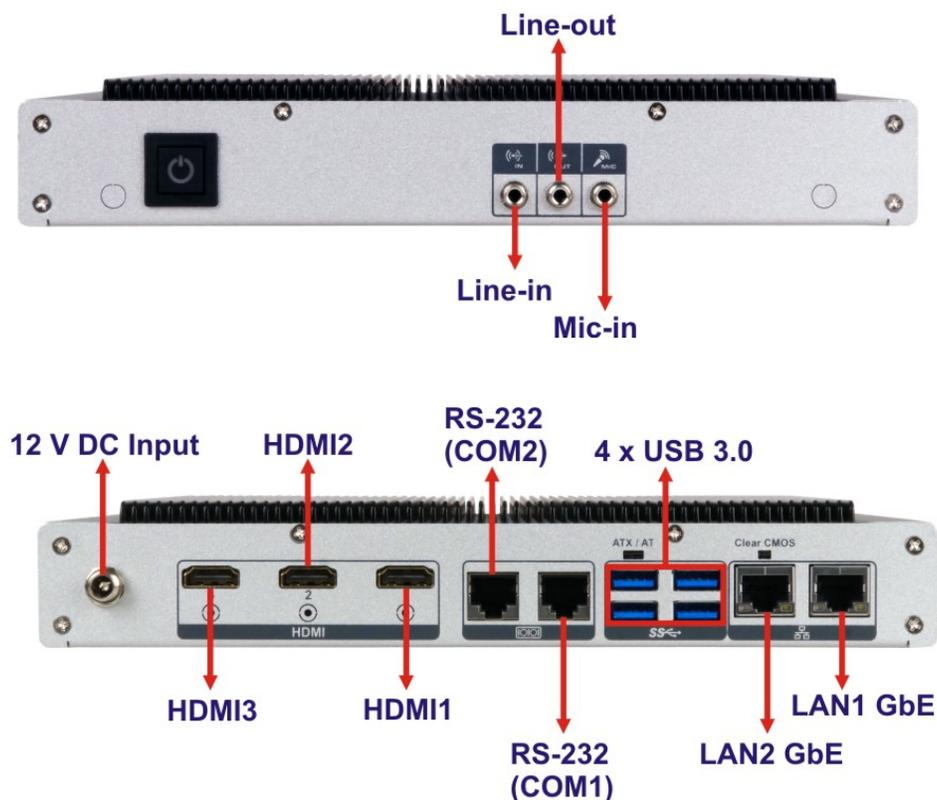

Figure 3-19: External Peripheral Interface Connectors
The locations of the external peripheral interface connectors are shown in **Figure 3-19**.
- CN Location:** See Figure 3-19
- CN Location:** See **Figure 3-19**